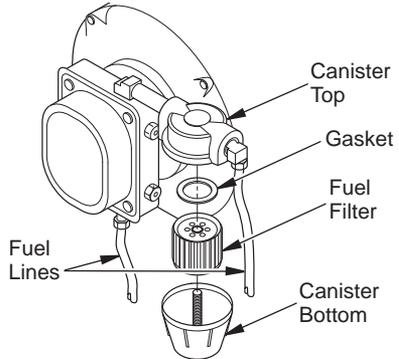

Figure 17 - Fuel Pump Filter and Canister
2. Remove fuel filter and gasket from canister bottom (see Figure 17).